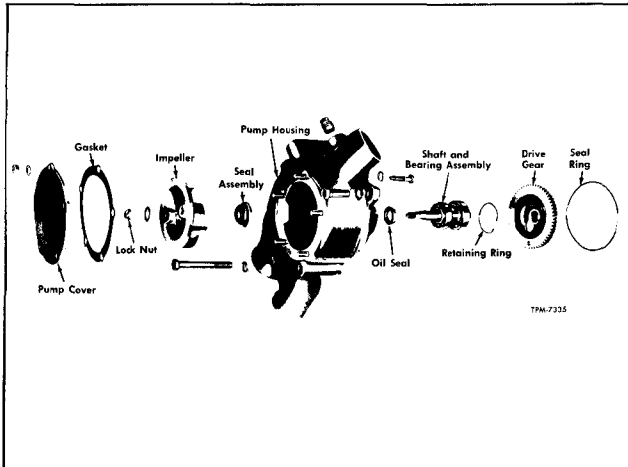

Figure 38—Water Pump Components (8V-71 Engine)
bearings are used to carry the shaft. The larger bearing is used at the drive gear end of the shaft to accommodate the thrust load (fig. 38).
1. Remove the pump cover and gasket (fig. 38).